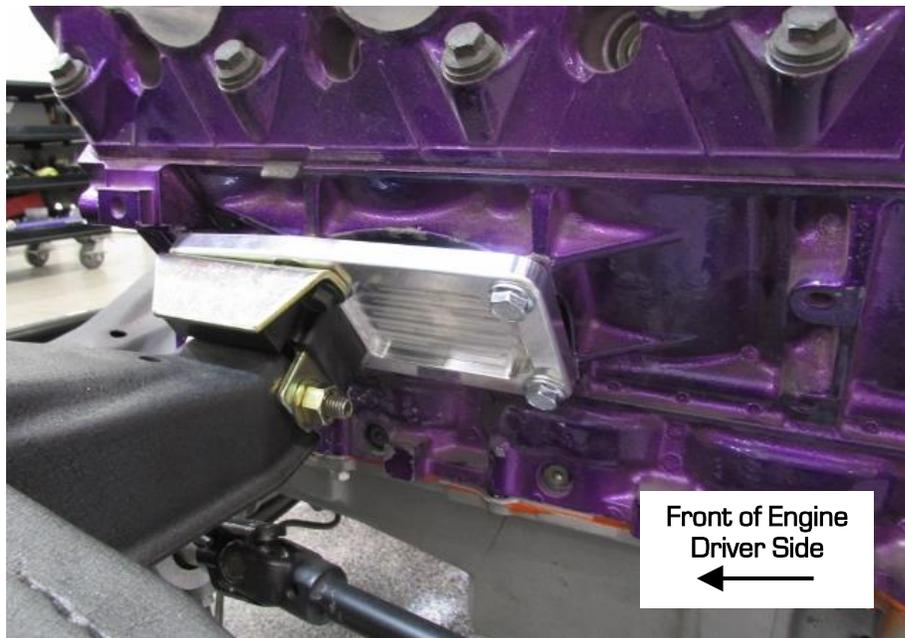

Figure 3 - Assembled View
5. Once everything is positioned correctly on the engine, attach the engine to the frame using two 7/16"-14 x 3.75" L hex head bolts (#7). Use the provided flat washers (#9), lock washer (#10) and the hex nut (#8) to tighten everything in place. Once the engine is level, torque these bolts to 30 ft.-lbs. (Figure 3).